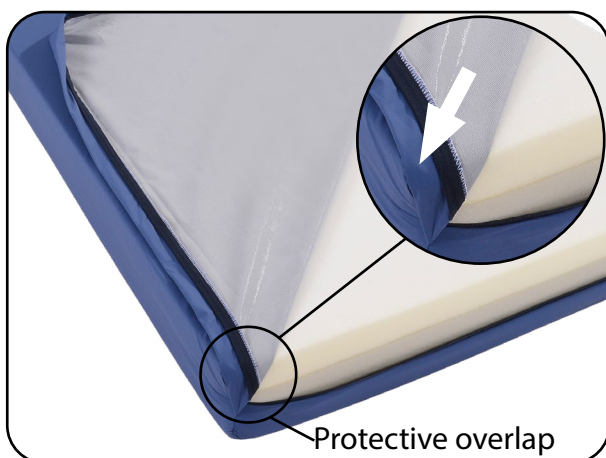

Fig. 6.1.02 - Protective overlap of the zip fastener
- Make sure that the zip fastener’s protective overlap runs from the top to the bottom, i.e. liquids must not be able to penetrate into the mattress cover from above through the zip fastener (Fig. 6.1.02).